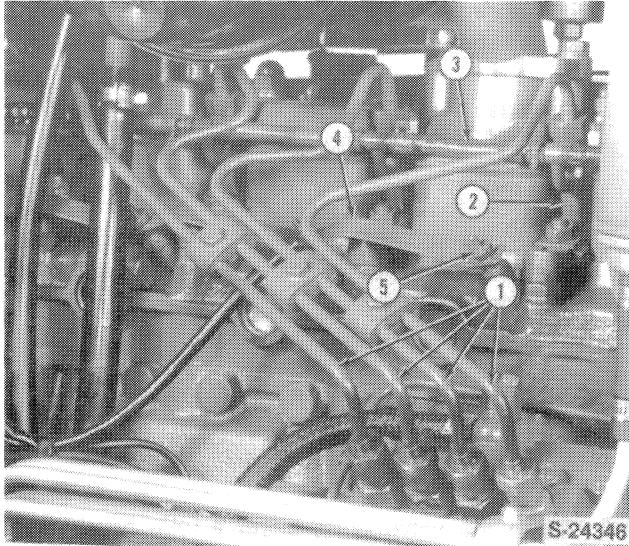

Figure 15
6. Remove the fuel injection lines (1) and fuel leak-off line (3) and cap all openings, Figure 15.
7. Remove the injector assemblies (2), Figure 15.